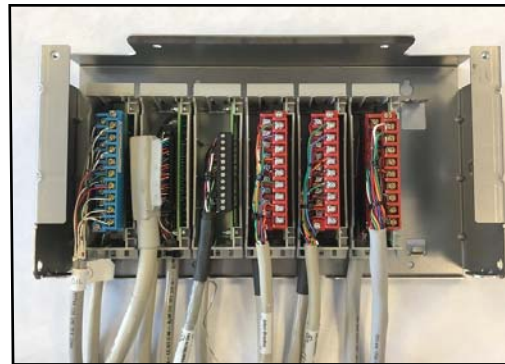

Figure 6b
b) Repeat step a until all of the field wiring terminal block and conversion modules are connected. (See figure 6b)